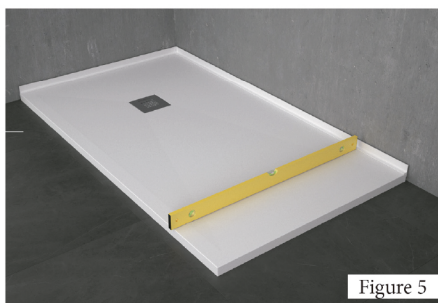

Figure 5
4. Settle the shower base into final position and tap level as per figure 5.